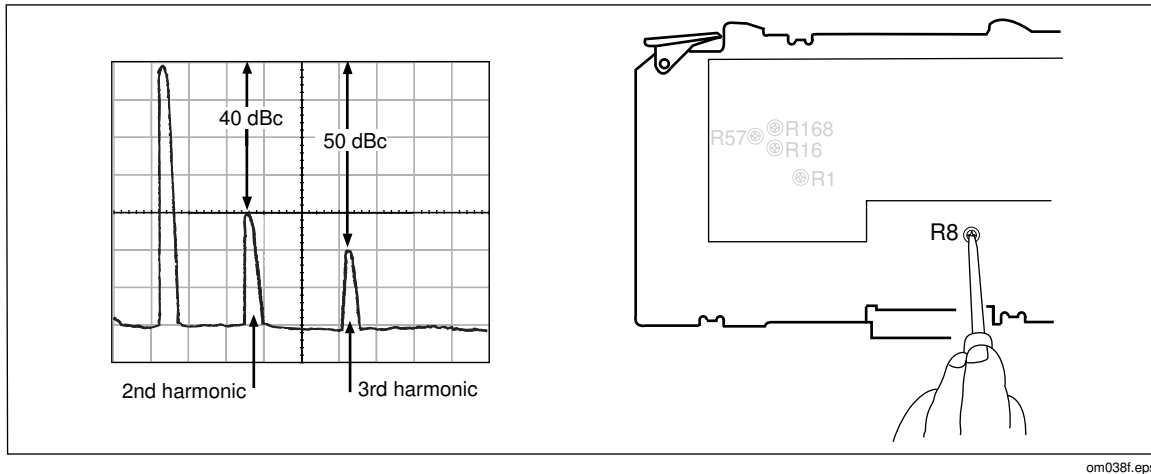

Figure 6-32. Adjusting the Leveled Sine Wave Harmonics
2. Use your Spectrum Analyzer's Peak Search function to find the desired reference signal. The Analyzer should show the fundamental, and second and third harmonics. The harmonics need to be adjusted so that the second harmonic is at 40 dBc and third harmonic should typically be at 50 dBc as shown in Figure 6-32.
3. To adjust the harmonics, adjust R8, as shown in Figure 6-32 until the peaks of the second and third harmonic are at the correct dB level. You may find that you can place the second harmonic at 40 dBc but the third harmonic is not at 50 dBc. If this